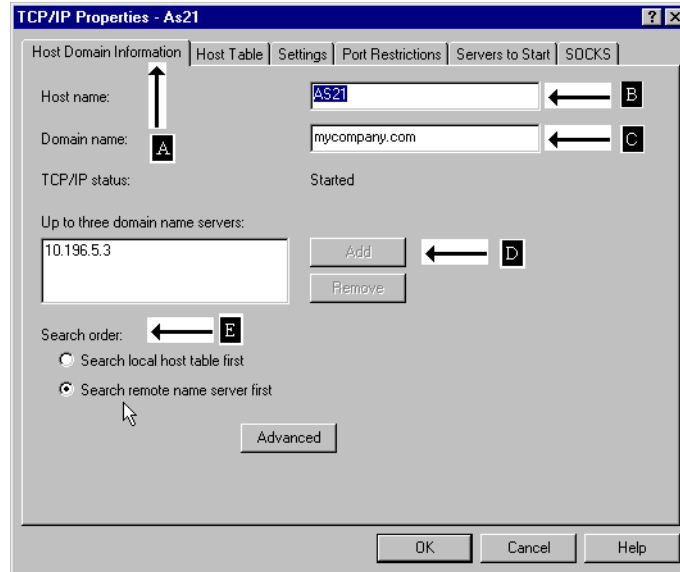

Figure 333. Host Domain Information
- h. Click the **Host Domain Information** tab (A) as shown in Figure 333.